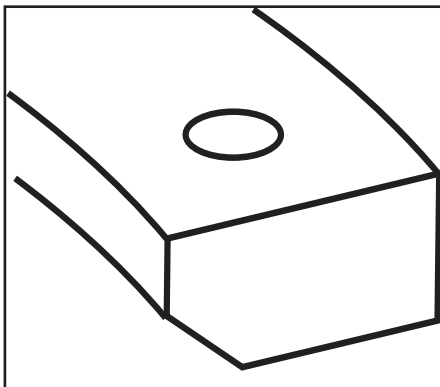

Figure 2
- If ring has dot and inside diameter bevel, dot goes to top of piston. **See Figure 2, below.**